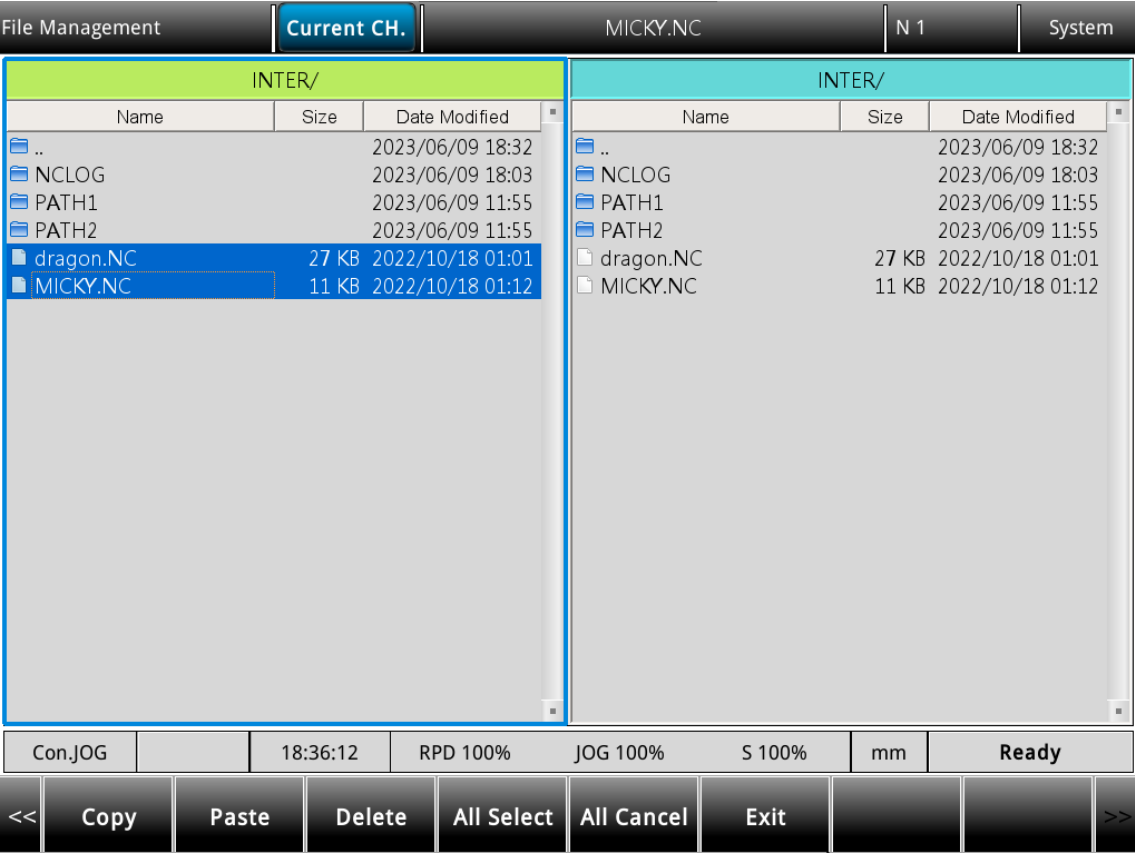

Figure 3.4.5.3
- (1) Set the system to EDIT mode.
- (2) Press **PRG** to switch to the PRG screen.
- (3) Press **File Manage** to switch to the file manage screen.
- (4) Enter the directory where users want to select the files.
- (5) In the File manage screen, press **↑** and **↓** or **PAGE UP** and **PAGE DN** to move the cursor to the file to be selected. To select a file, press **Select**. To cancel the selection, press **Select** again. If there is only one item selected, it will not be able to cancel the selection. To select all files, press **All Select**. To cancel the selection of all files, press **All Cancel**.
- (6) After selecting multiple files, press **Delete** to delete. (As shown in Figure 3.4.5.3).